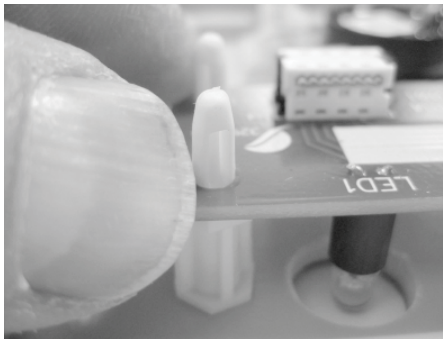

Figure 39 - Press the first end of the Indicator Board completely down on to its supports
- f. Move the first end of the Indicator Board. Using two fingers as shown in Figure 39, gently press the first end of the Indicator Board completely down onto the nylon supports. A quiet “click” may be heard when the supports lock into place.